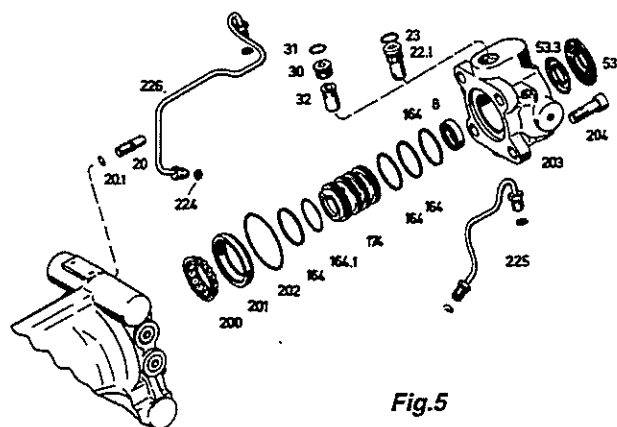

Fig.5
Remove protecting cap (53) and gasket (53.3) (**Fig.5**).